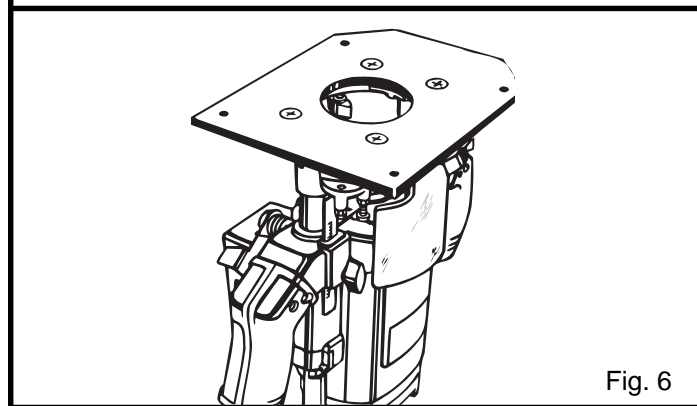

Fig. 6
6. Once properly assembled, your router and mounting plate assembly should be similar to the illustration shown in figure 6.